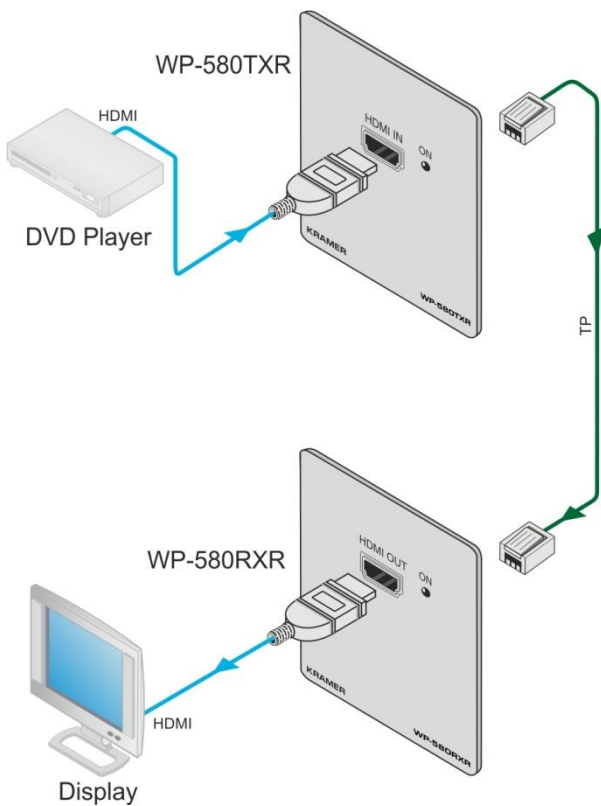

Figure 5: Connecting the WP-580Txr/WP-580Rxr Transmitter/Receiver Pair
You can use the **WP-580Txr** HDMI Line Transmitter and the **WP-580Rxr** HDMI Line Receiver to configure an HDMI transmitter/receiver system, as illustrated in the example in Figure 5.
3. 5V DC power adapter to the power socket and connect the adapter to the mains electricity (not shown in Figure 5).
6. Connect the 5V DC power adapter to the power socket and connect the adapter to the mains electricity (not shown in Figure 5).